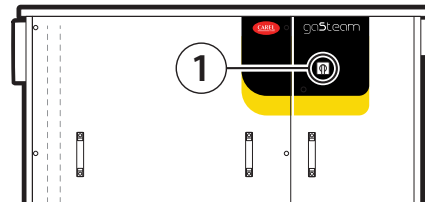

Fig. 11.a
After having connected power using the main disconnect switch (ON), switch the appliance on by moving the switch on the front panel (1 - Fig. 11.a) to "ON". The activation sequence will start, which includes an initial phase, an autotest phase and finally actual operation. Each step in the activation sequence is identified by a different display.